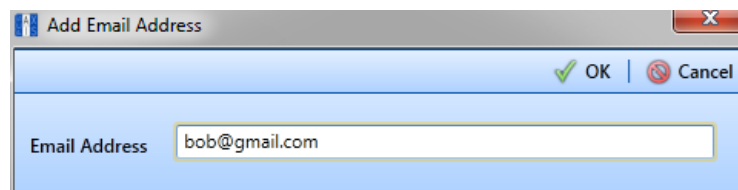

Figure 11-2. Add Email Address
- Click ➕ **Add Email** to open the *Add Email Address* dialog box (Figure 11-2).